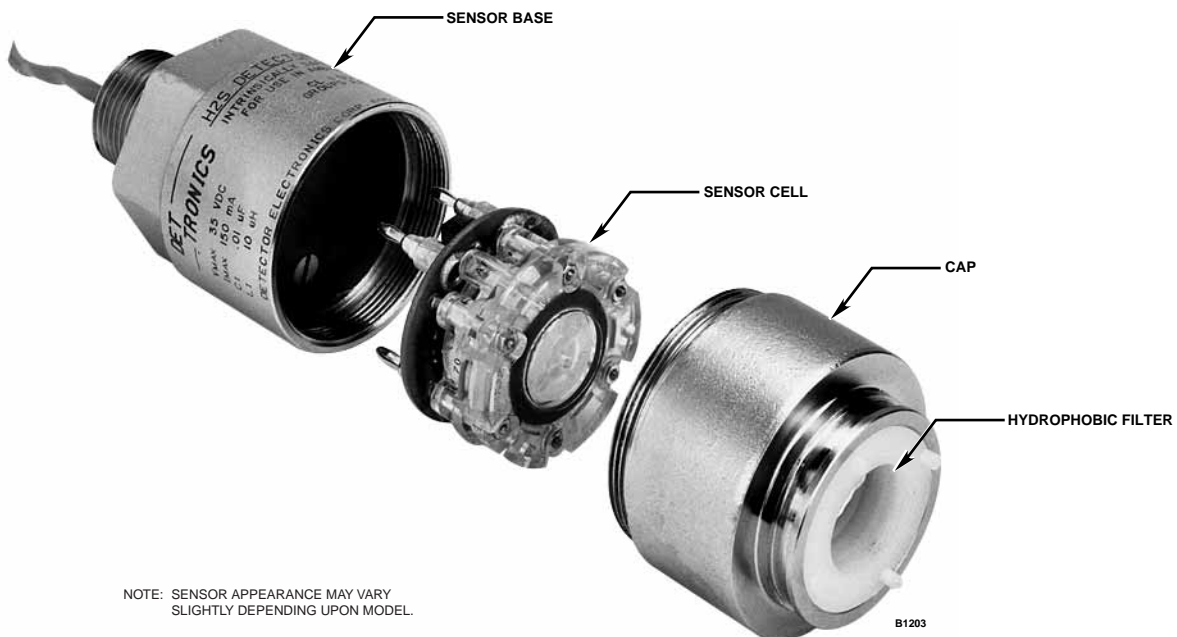

Figure 5—Exploded View of Sensor
4. Remove the cap from the sensor base. See Figure 5.